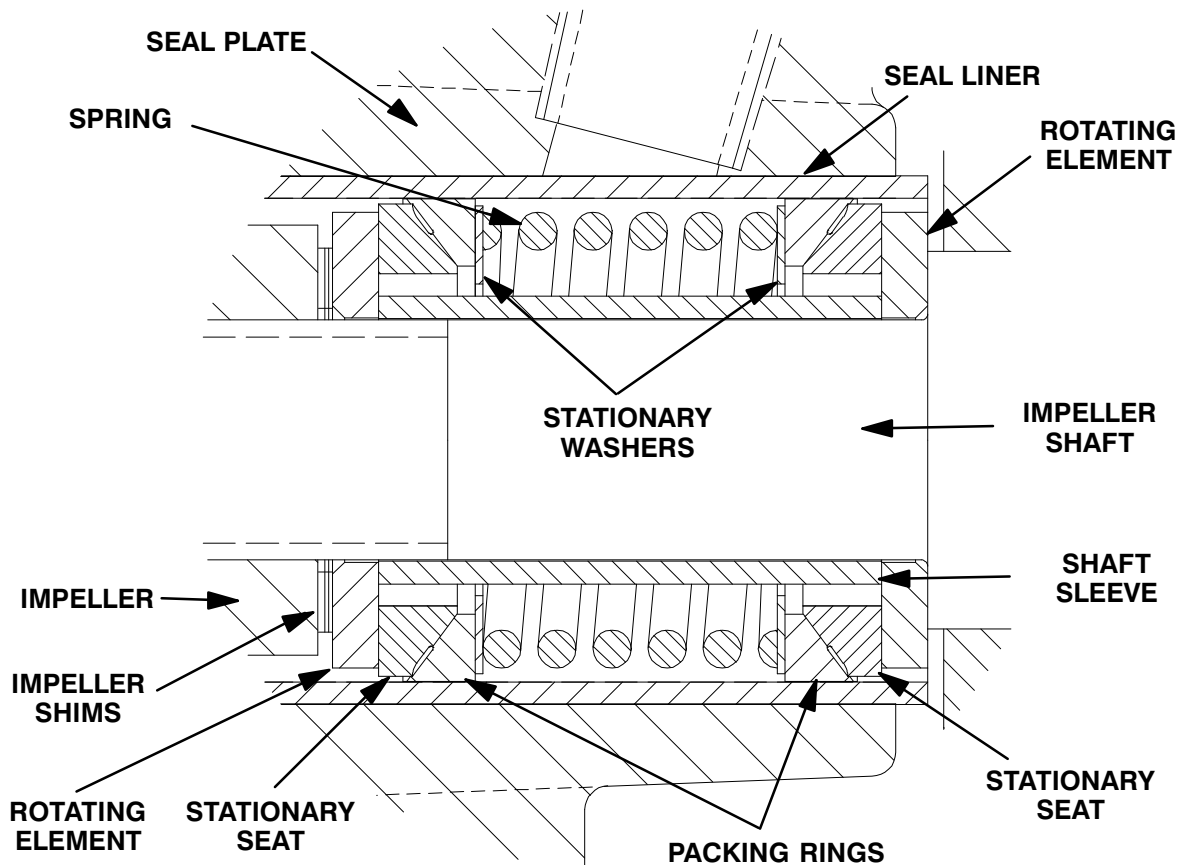

Figure 3. Seal Assembly
To ease installation of the seal, lubricate the seal liner (11) with water or a very **small** amount of oil, and apply a drop of light lubricating oil on the finished faces. Assemble the seal as follows, (see Figure 3).